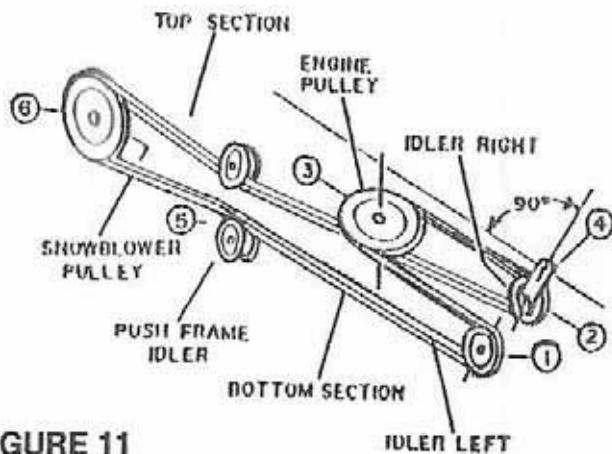

FIGURE 11
- f) Route the snowblower drive belt in the subframe inside left belt guide (fig. 1, item 12), around the "V" idler pulley (fig. 11, item 1), inside the right belt guide (fig. 1, item 14), around "V" idler pulley (fig. 11, item 2) and around the tractor drive pulley (fig. 11, item 3).
NOTE: Be careful the left V-belt section between the two pulleys (fig. 11, item 6 and 1) is not twisted.
- a) Belt Adjustment with Manual PTO clutch: When the clutch mechanism is in engaged position, the pulley lever (fig. 11 or 14, item 4) must be approximately 90° with the subframe. The spring should be lengthened between 3/4" to 7/8". If it is not like this, adjust the belt tension, using the left adjustable idler pulley (item 1). Disengage the clutch, loosen the middle bolt, slide the idler in the slot and retighten the bolt. Engage the manual PTO clutch and recheck to be sure the spring length is between 3/4" to 7/8". The lever pulley angle should be appx. 90° with subframe.